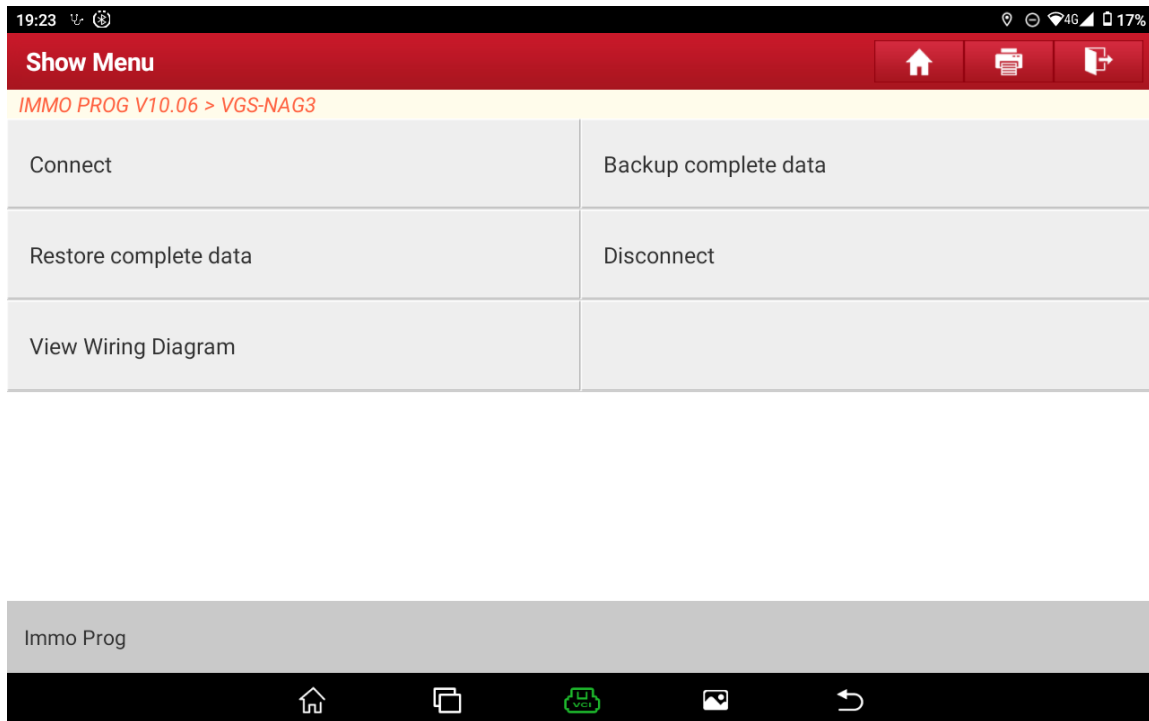

Figure 6
6. Before performing operations of other functions, please first perform the [Connect] function to verify whether the gearbox is connected to the programmer, as shown in Figure 6 and 7;